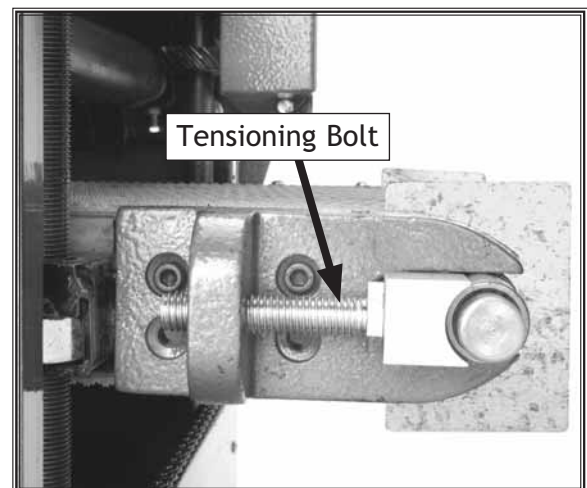

Figure 21. Conveyor belt tension adjustment.
1. Use a magic marker, correction fluid, or fingernail polish to mark the front of the conveyor tensioning bolt on both sides (Figure 21). This step will aid you in keeping track of the rotations as you turn the bolts, so they remain as equal as possible.